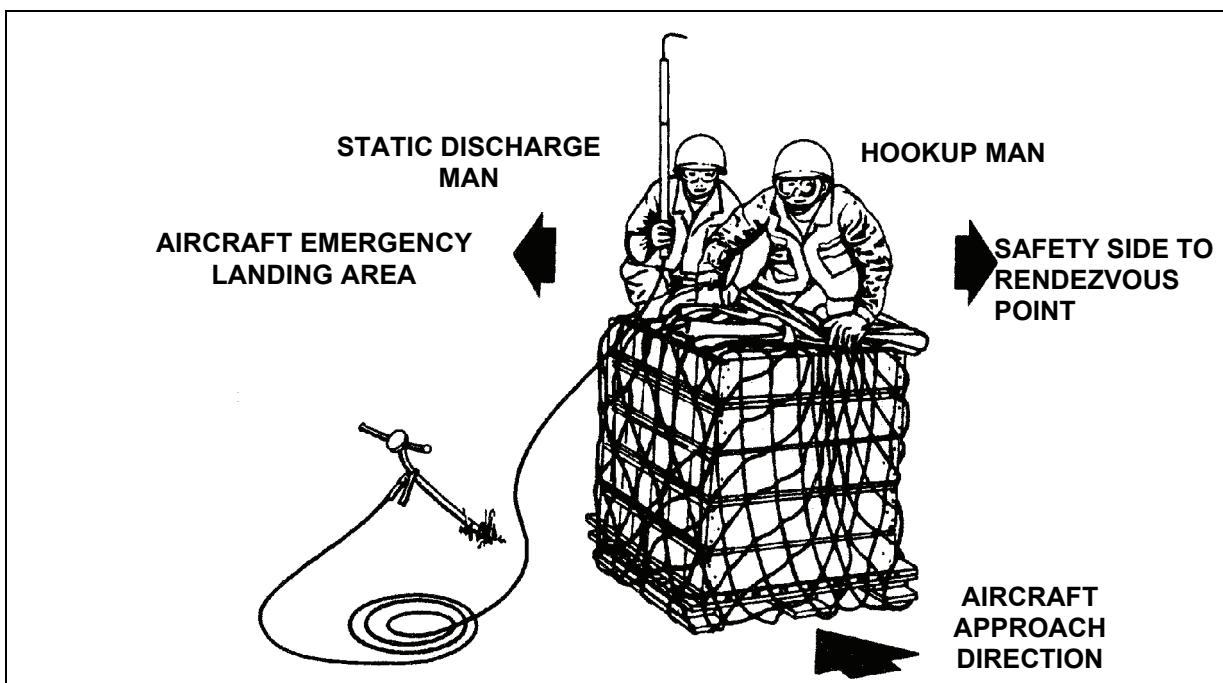

Figure 5-4. Hookup Team Position
- Hookup Team Procedures.** Hookup team personnel should kneel down, brace themselves, and hold securely to the load because of the rotor wash. The hookup man will have the apex fitting/web ring in his hands ready for hookup. The static wand person will hold the static discharge wand so that the red line or the **DO NOT HOLD** area is above the hookup team's helmets, as in Figure 5-4.